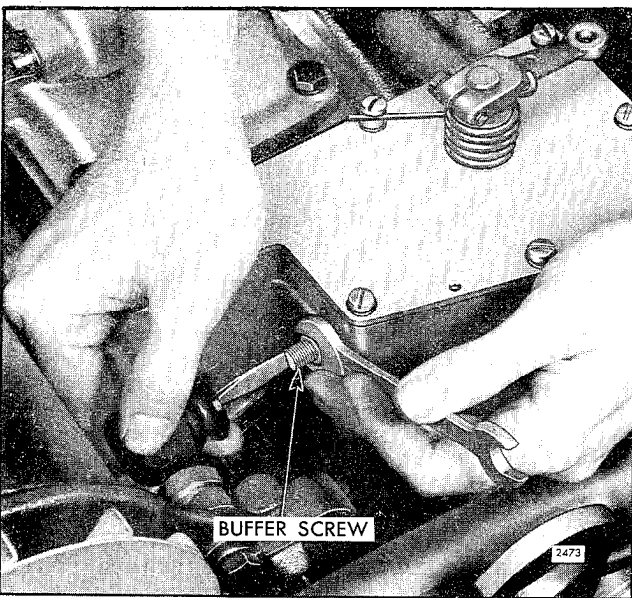

Fig. 6 - Adjusting Buffer Screw
1. With the engine running at normal operating temperatures, turn the buffer screw "in" (Fig. 6) so